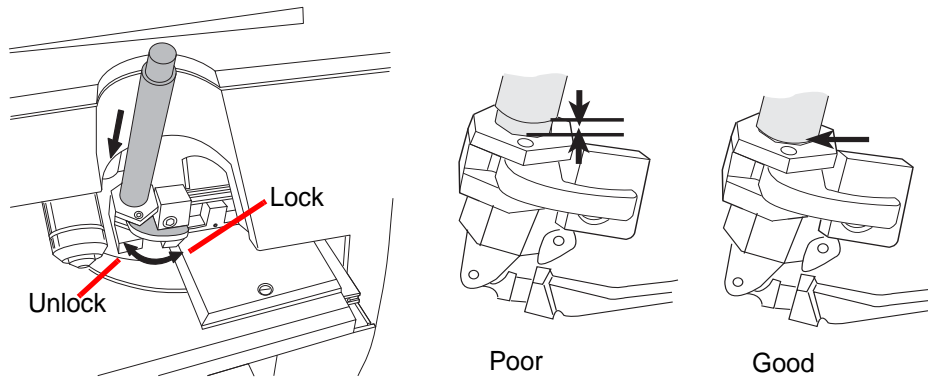

Figure 4-5 Load the Sharpie® Object Marker Pen
Press the **Done** softkey. (Refer to Figure 4-5.)
- For ThinPrep Review Scopes that use the Sharpie marking pen, push the pen into the guide, making sure it is seated against the holder. Then press the locking arm to the right until it firmly grips the pen. (Refer to Figure 4-5.)